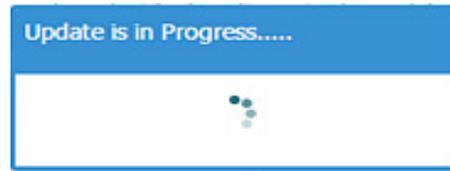

Figure 89 Update in progress
- After applying the patch, SRS reboots after some time. An Update in Progress status bar on the Web UI initially appears, as shown in Figure 89 on page 77, but later it will only show the static content as it cannot communicate to SRS once the SRS reboot process had started.